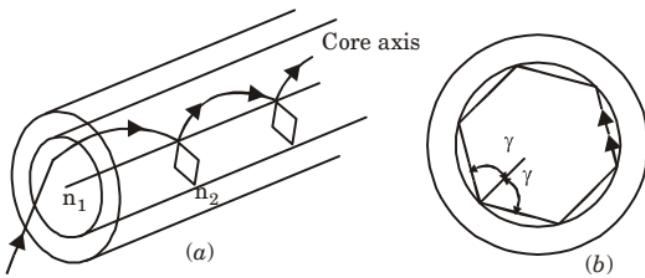

Fig. 13. The helical path taken by a skew ray in an optical fiber:
4. From Fig. 13, it is observed that the helical path traced through the fiber gives a change in direction of 2γ at each reflection where γ is the angle between the projection of the ray in two dimensions and radius of fiber core at the point of reflection.